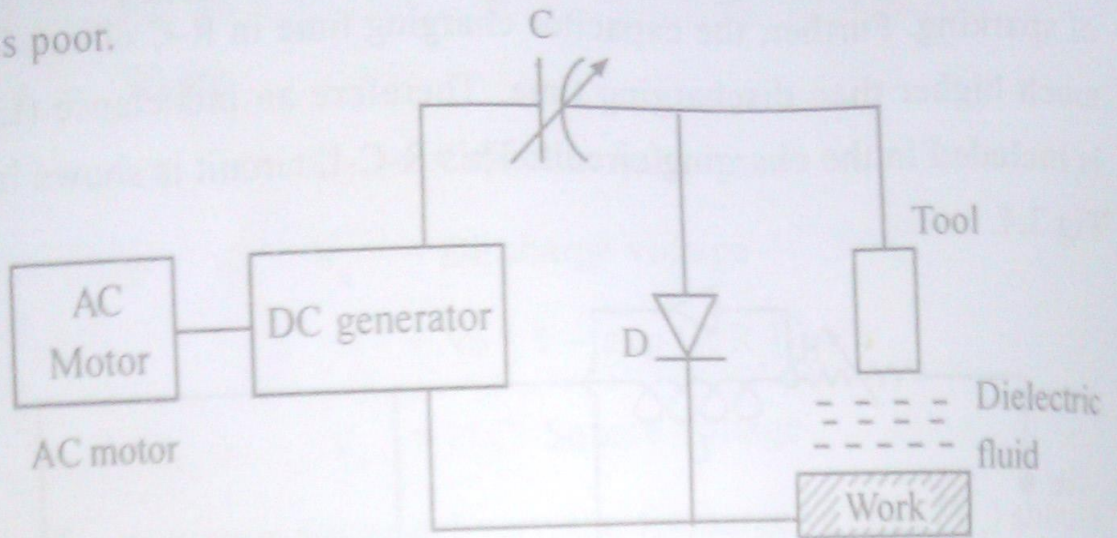

Fig 3.5 Rotary Pulse generator
R-C and R-L-C circuits yield low metal removal rate. Therefore, rotary pulse generator is used for spark generation. It yields high metal removal rate, low tool wear and more precise control of parameters. Fig. 3.5 shows the schematic diagram of rotary impulse generator circuit. In this circuit, the capacitor (C) is discharged through the diode during the first half cycle. During the next half cycle, the sum of voltages generated by the generator and the charged capacitor is applied to the work- tool gap. This